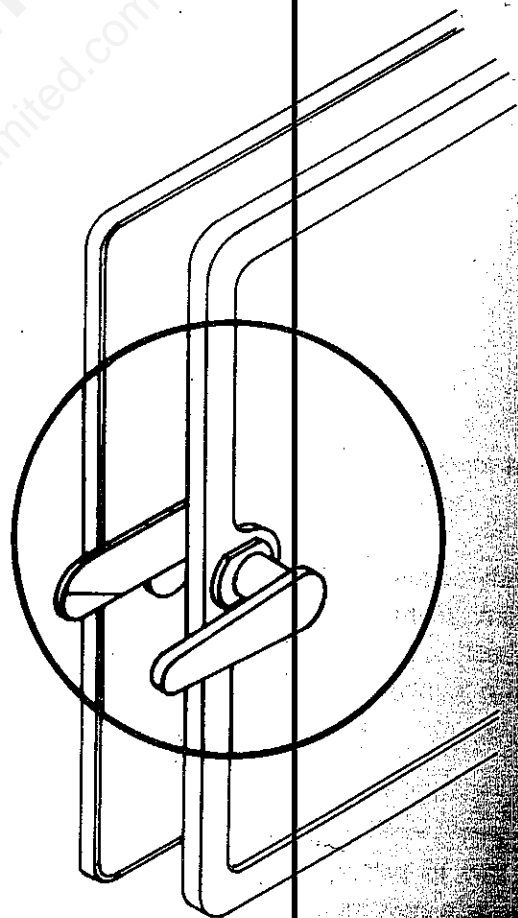

FIG. 11
4. Then to open door, turn the handle counter clockwise to the 9 o'clock position and then continue to pull the door open. (Fig. 11).
Remove handle assembly from ash pan. Items in bag should include: (SEE FIG. 11).